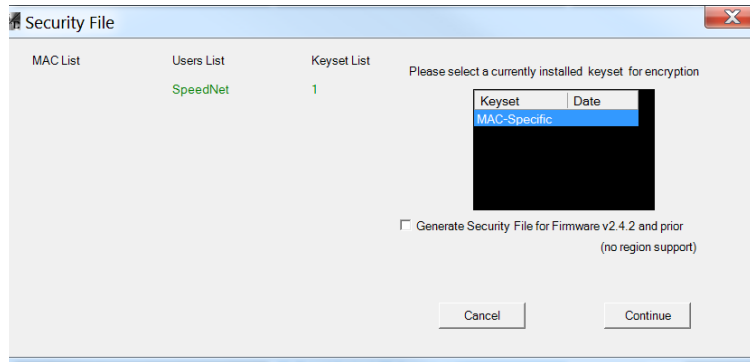

Figure 23. Security File window.
- STEP 2.** Click the **Generate Security File** button on the **Key Generation** window. The **Security File** window will open with all selections listed. See Figure 23.